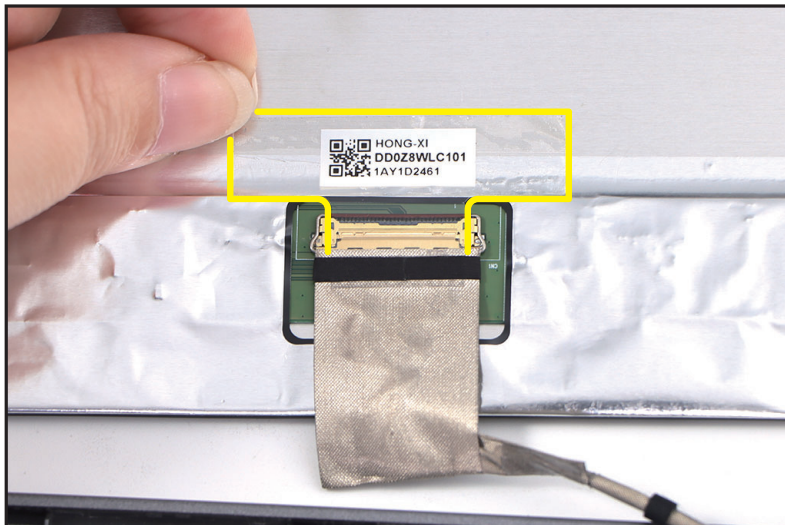

Figure 1-47. LCD Panel Removal
3. Carefully turn the LCD panel over so that the display panel is facing down on a flat surface (Figure 1-47).
4. Detach the mylar tape securing the LVDS cable to the LCD panel (Figure 1-47).